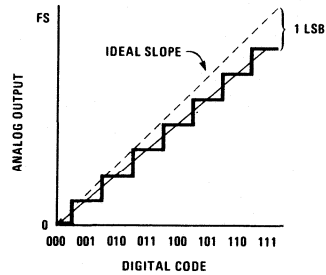

FIGURE 4. Linear, 1 LSB Scale Error
**Scale Error** (full scale error) is the departure from design output voltage of a DAC for a given input code, usually full-scale code. (See figure 4.) In an ADC it is the departure of actual input voltage from design input voltage for a full-scale output code. Scale errors can be caused by errors in reference voltage, ladder resistor values, or amplifier gain, *et. al.* (See **Temperature Coefficient**.) Scale errors may be corrected by adjusting output amplifier gain or reference voltage. If the transfer curve resembles that of figure 7, a scale adjustment at  $\frac{1}{4}$  scale could improve the overall  $\pm$  accuracy compared to an adjustment at full scale.